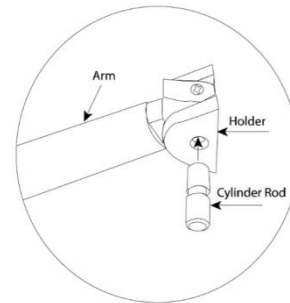

Figure 2.0
- Insert the arm to the connection points. Insert cylinder rod lock to arm holder as figure 2.0.